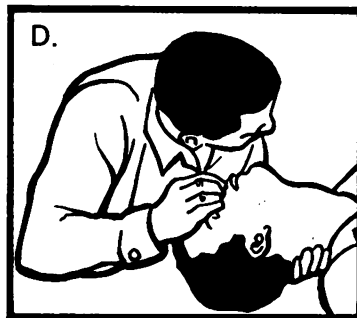

Figure 6.
(2) The rescuer will then remove his mouth, turn his head, and again LOOK, LISTEN, and FEEL for the exhaled air (figure 6).